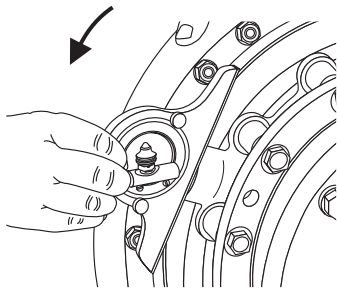
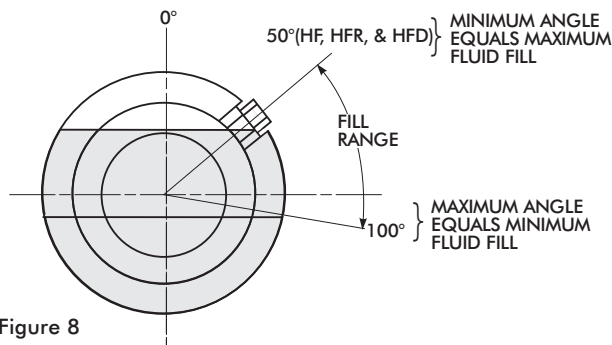

Figure 7
Figure 8
- C. Slowly rotate fluid coupling until the required fill angle is achieved, Figure 7. Fluid must appear at the lip of the fill hole. Add or drain fluid until level is correct. Figure 8 shows fill angle range, degrees from vertical (from 0°).